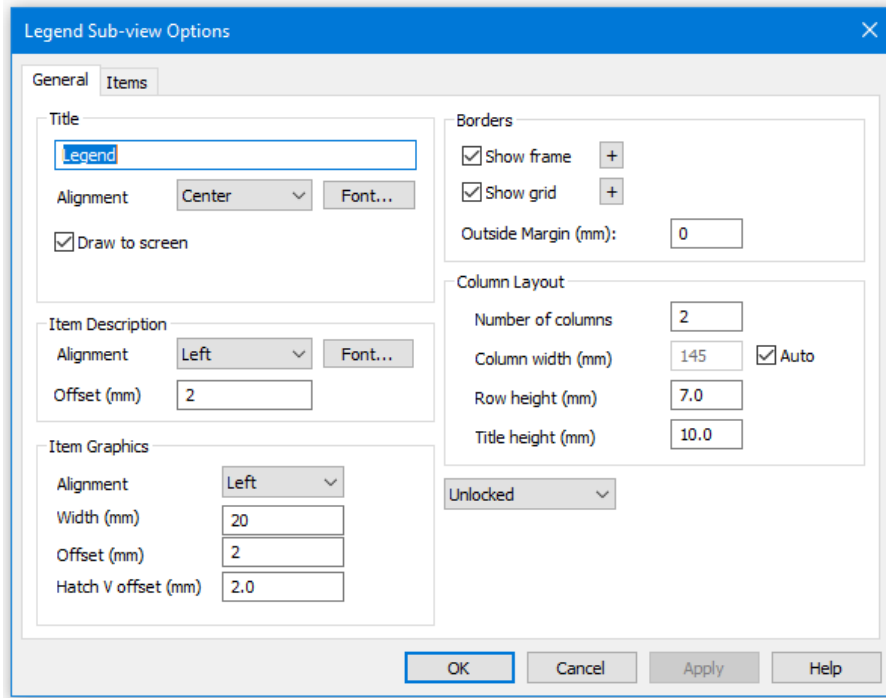

Figure 3-32: Legend Sub-View Options Dialogue
10. Ensure the *Legend Sub-view Options* dialogue box matches the Figure 3-32.